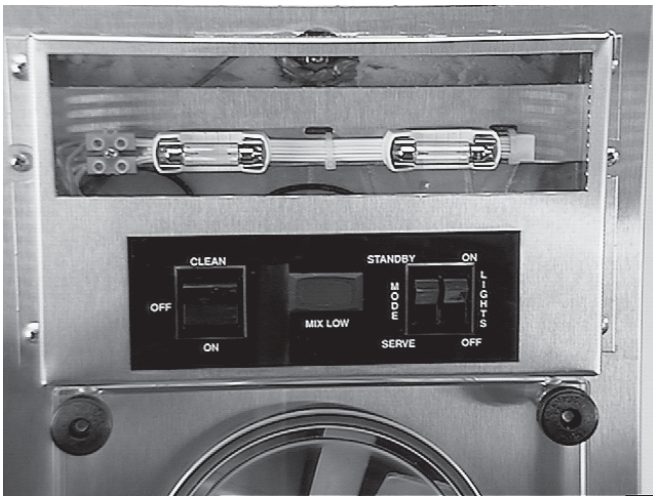

Figure 29. Electrical Panel
2. Remove the four retaining screws from the electrical panel and tip forward. Figure 29.